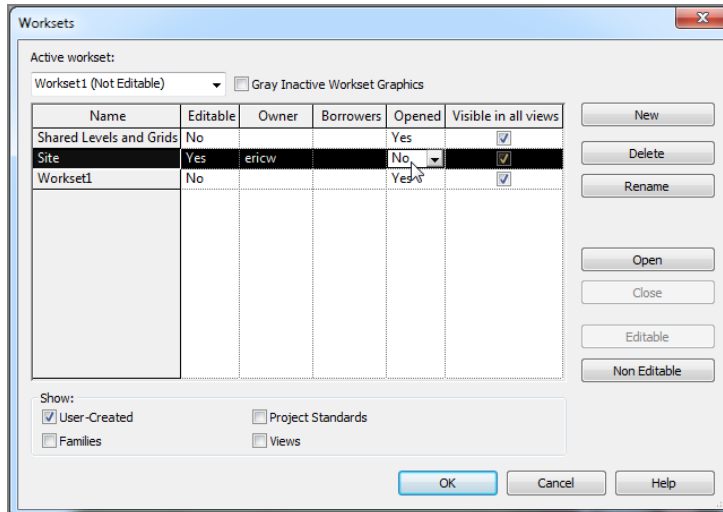

FIGURE 22.17: Changing the Opened status to No
2. In the Site workset, change the Opened status to No, as shown in Figure 22.17.